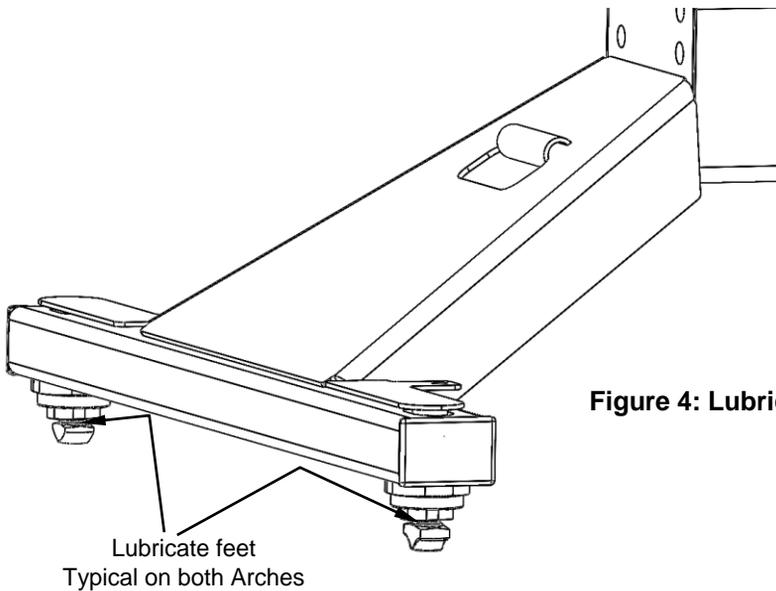

Figure 4: Lubrication Points
3. Lubricate feet with lithium grease for easier engagement as shown in Figure 4.
6. Remove hitch assembly and lubricate tee pins in bushings with lithium grease (see Figure 4). Replace unit in pucks.